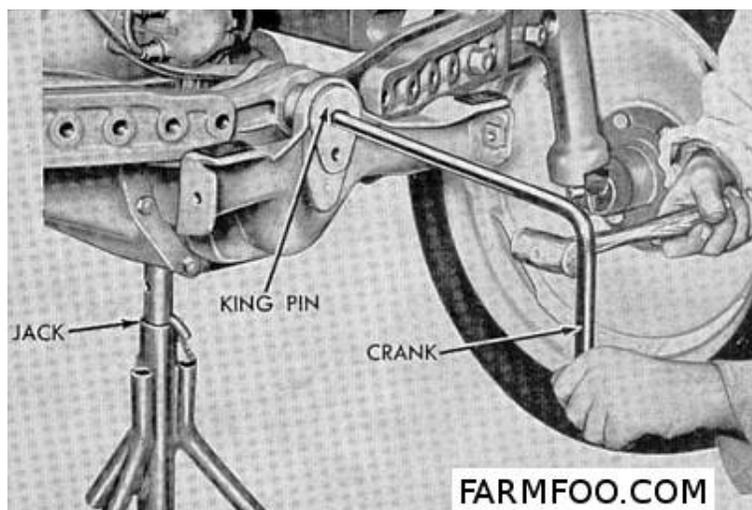

Fig. F04 - Method of removing axle center pin.
3. Remove front hood bolts at bottom and block up under hood. Hold up front end of engine with jack under oil pan and unbolt axle support. Remove two bottom radiator bolts and raise engine and radiator high enough to permit removal of axle center pin. Remove pin, using hand crank as show in Fig. F04.